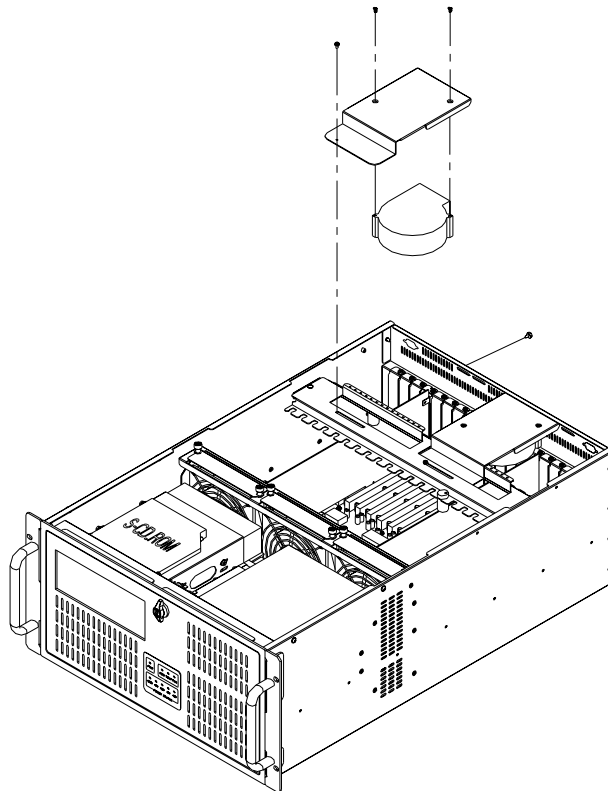

Figure 3.5: Removing the blower unit
2. Loosen the screws on the blower unit, one on the rear panel, and one on the hold down clamp. (see Figure 3.5)